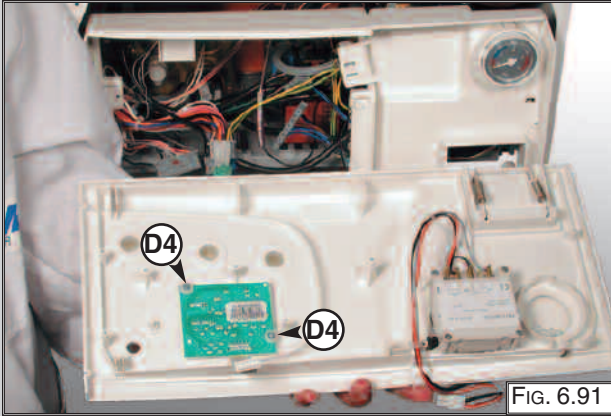

FIG. 6.91
10. Unscrew the display P.C.B. mounting screws "D4" (FIG. 6.91);